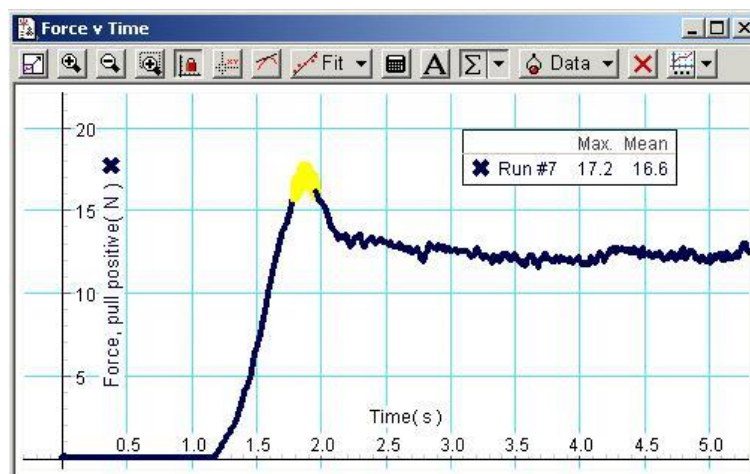

Figure 2: Force vs Time graphs in Datastudio
7. Use the cursor to highlight the region that corresponds to the maximum static friction. The legend box gives the value of the maximum Static Friction. Enter this value into the corresponding STATIC data table. Also, enter the value of the Friction Tray's normal force. (Figure 2)